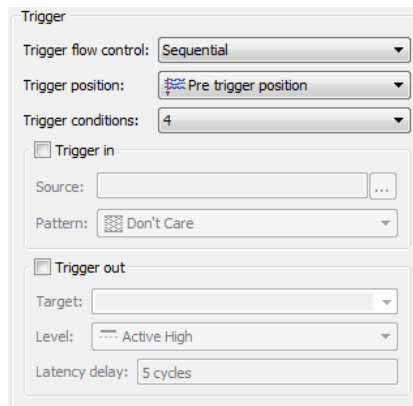

Figure 14. Set trigger levels to 4.
2. In the Signal Configuration pane, select 4 from Trigger Conditions dropdown menu as in Figure 14 (you may have to scroll down in the Signal Configuration pane to see this menu). This modifies the node list window by creating three new Trigger Conditions columns.